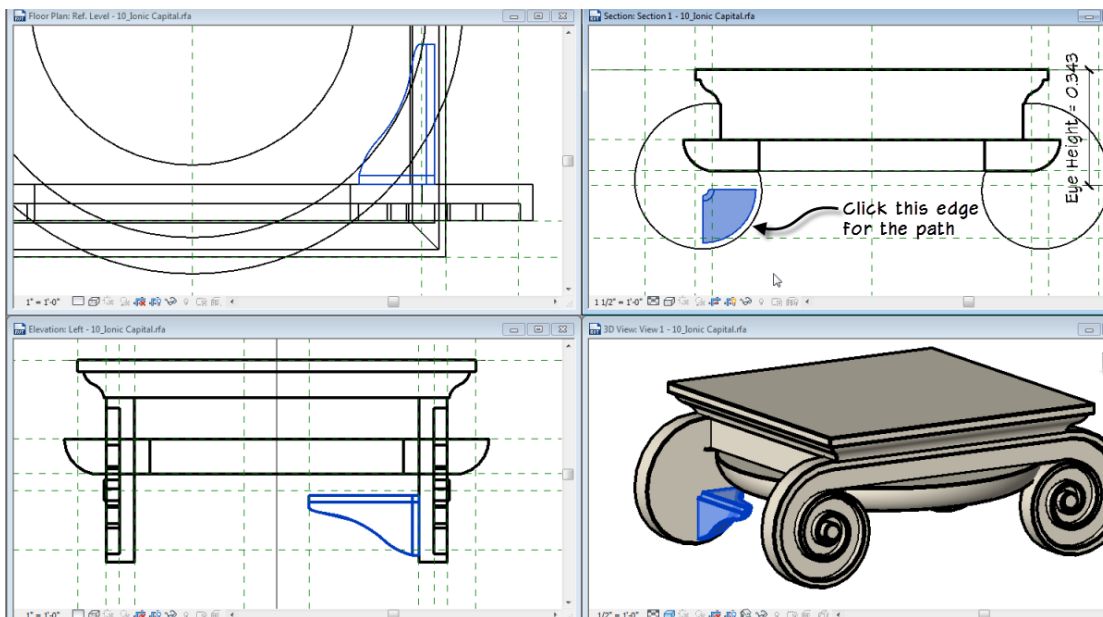

FIGURE 24—CREATE A SWEEP USING THE PICK PATH OPTION
- ⇒ Click Finish Edit Mode (see Figure 24).